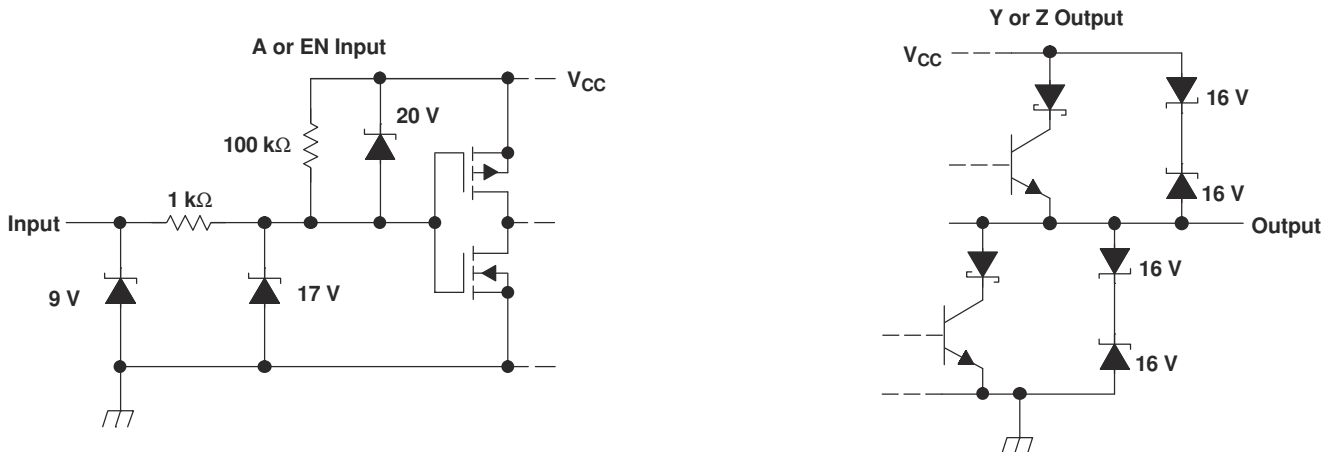

Figure 6-9. Equivalent Input and Output Schematic Diagrams
- Changed the location of Figure 6-9 8